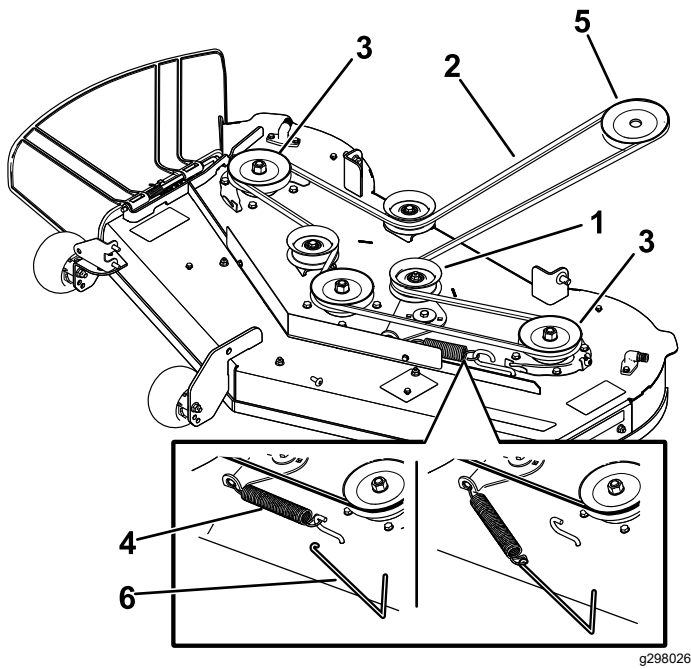

Figure 55
5. Using a spring-removal tool (Toro Part No. 92-5771), remove the idler spring from the deck hook to remove tension on the idler pulley, and roll the belt off the pulleys (Figure 54 or Figure 55).
6. Route the new belt around the engine pulley and mower pulleys (Figure 54 or Figure 55).
7. Using a spring-removal tool (Toro Part No. 92-5771), install the idler spring over the deck hook and place tension on the idler pulley and the mower belt (Figure 54 or Figure 55).